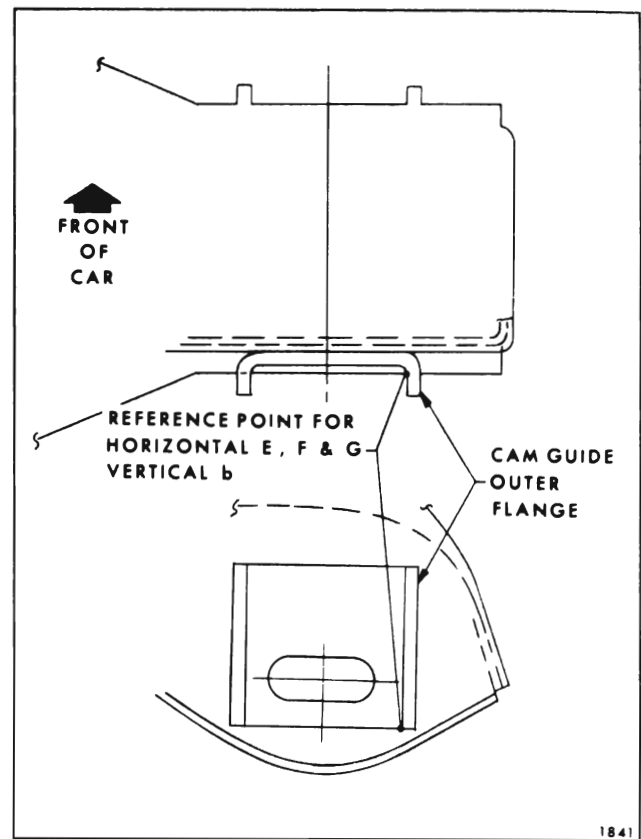

Fig. 3-10—Lower Control Arm Adjusting Cam Guide
- b 9-3/16 Lowest point of front suspension lower control arm adjusting cam guide (See Fig. 3-10).